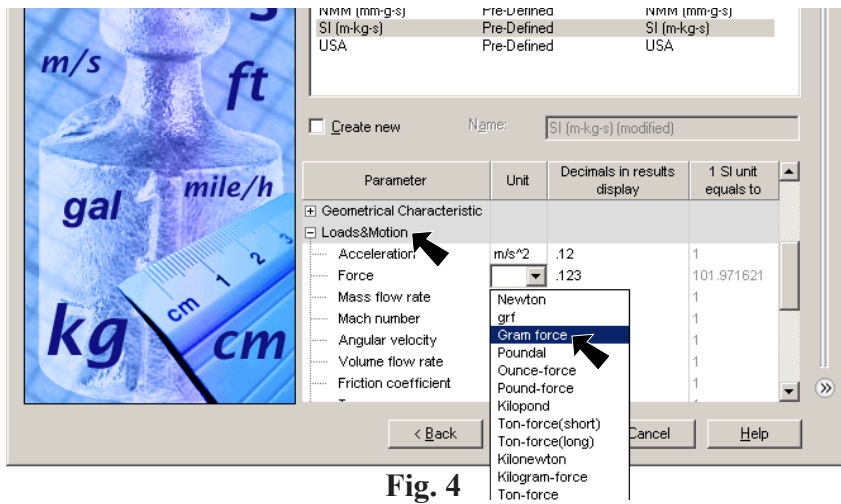

Fig. 4
Step 7. Scroll down and expand **Loads & Motion**, set **Force** units to **Gram force**, **Fig. 4**. Gram force unit is p.